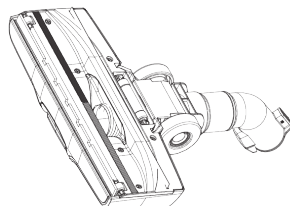

Fig. 14
4. As in fig.14, tread on the pedal of the brush tool again to put the bristles in, and you can clean the carpet.